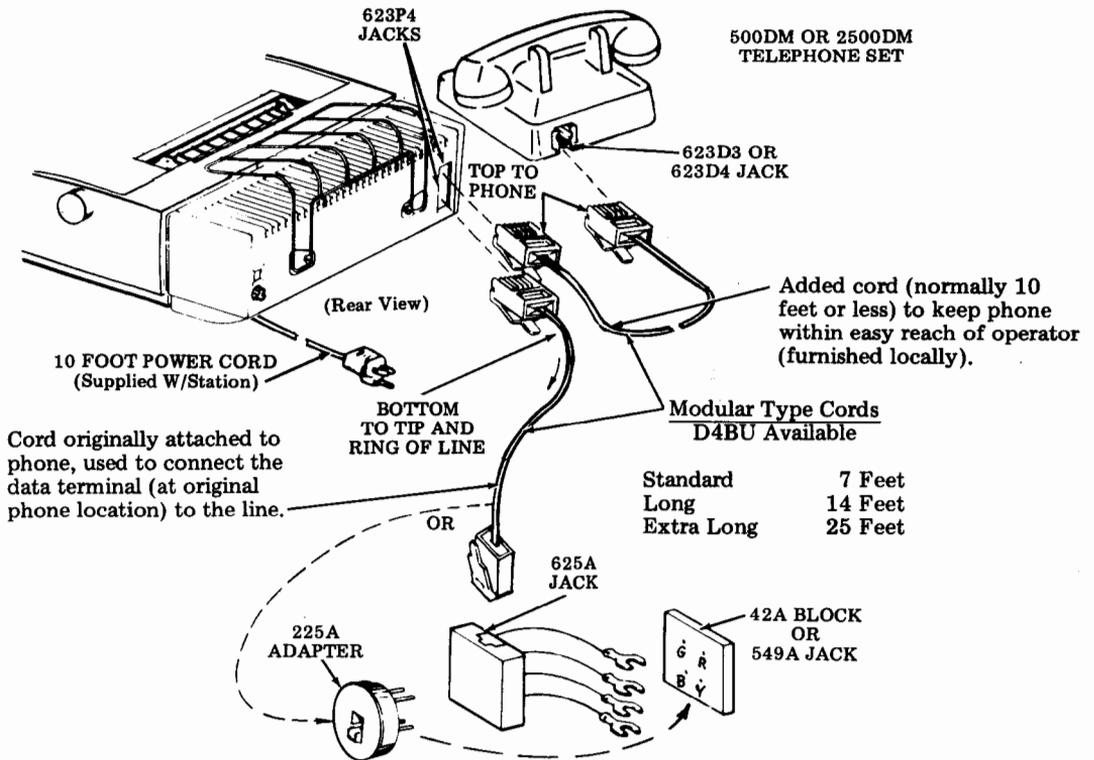

Fig. 3—Telephone Connection
- 3.08 Unplug the modular plug of the D4BU cord from the modular jack associated with the telephone specified on the service order and connect it to the lower connector marked LINE on the rear of the TDU accessible through the opening in the left rear of the bustle cover (Fig. 3). If telephone is not to be placed at original phone location, a different length cord may be needed.